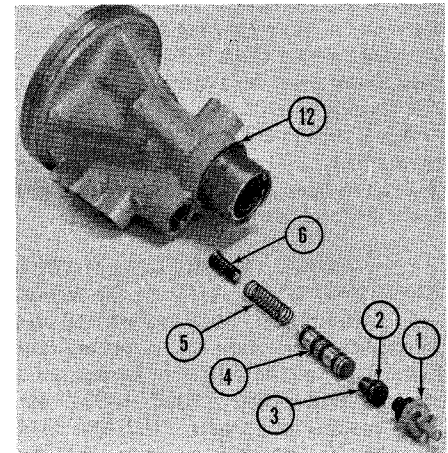

Fig. 12—Exploded view of Hydramotor housing and blocking valve components. Blocking valve can be removed without disassembly of Hydramotor.
16. R&R BLOCKING SPOOL (REACTION) VALVE (Hydramotor Models). The blocking spool valve and related parts can be removed and reinstalled after the Hydramotor steering unit has been removed as outlined in paragraph 14. Refer to Fig. 12 and proceed as follows:
To reassemble, install parts in bore of housing (12—Fig. 12) as shown in exploded view, renewing the "O" ring (2) on plug (3) and tightening adjuster nut to a torque of 10-15 ft.-lbs.